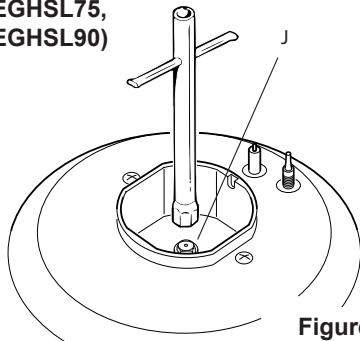

Figure 5a
- Using a wrench, substitute the injectors "J" (figs. 5a, 5b, 5c, 5d) with those most suitable for the kind of gas for which it is to be used (see table above).